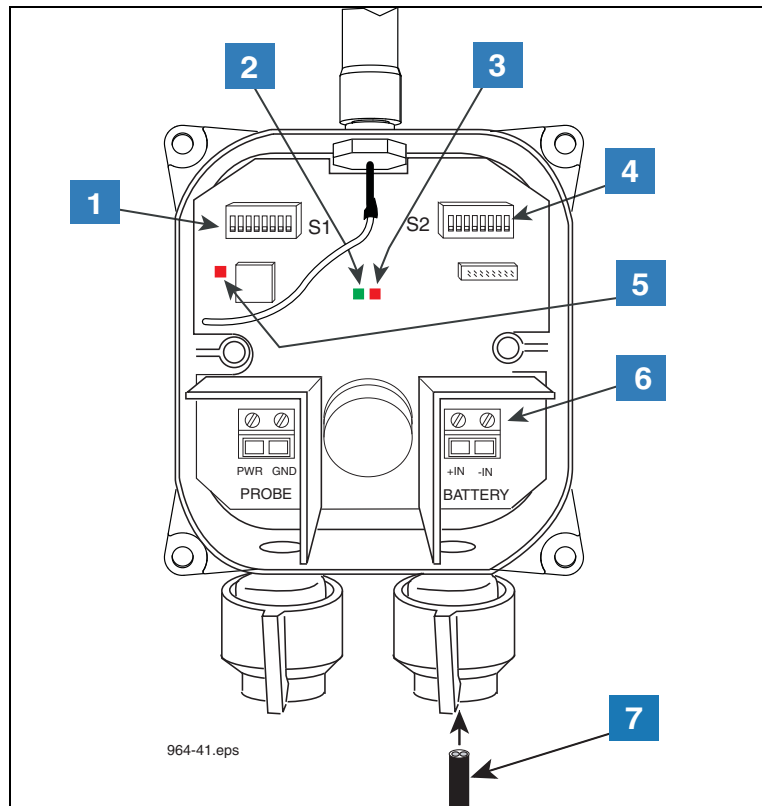

Figure 5. Wiring The Battery Cable To The Transmitter
- e. Connect the battery pack/dc power cable to the BATTERY terminal block (white to +IN and black to -IN) as shown in Figure 5.
#### LEGEND FOR NUMBERED BOXES IN Figure 5
- a. Connect the first Transmitter's battery cable to a battery pack; noting the Red LED should be flashing momentarily then followed by the Green LED (refer to item 2 and 3 in Figure 5). Since there is no Sensor connected, the two LEDs should be flashing. This is an indication a Sensor communication error and is acceptable at this step.